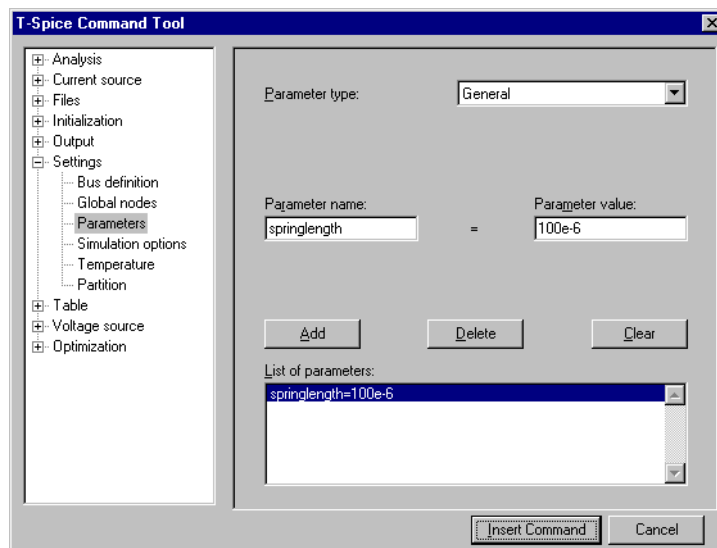

Figure 91: Customizing the setting parameters
- ☑ In the left tree, double-click **Settings** and then **Parameters**. Add the **springlength** parameter statement. Set **Parameter name** to *springlength*, and **Parameter value** to *100e-6* (Figure 91). Click **Add**. Click **Insert Command**.